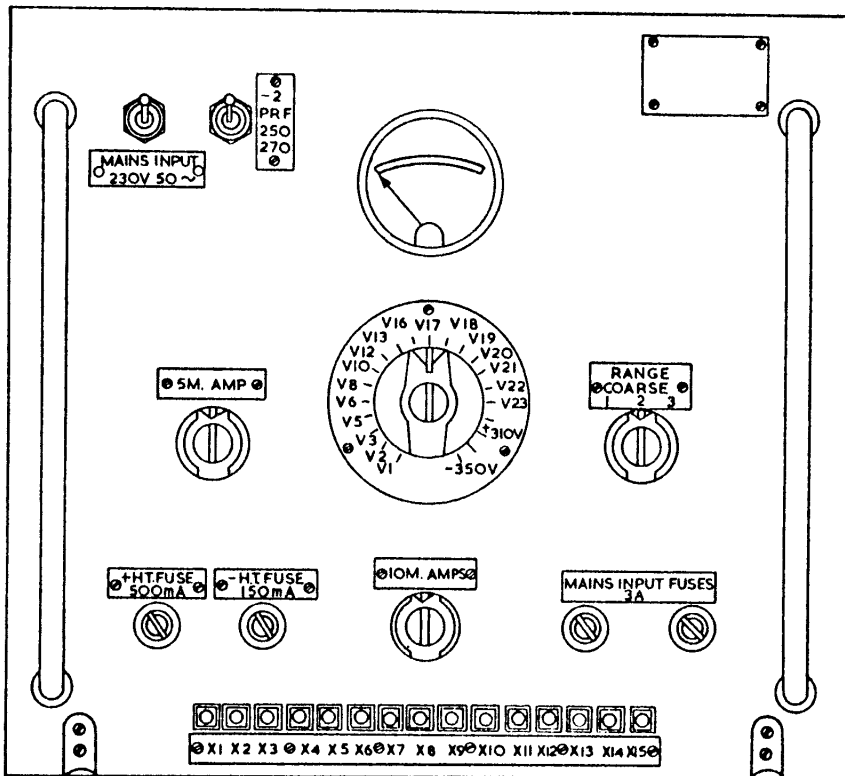
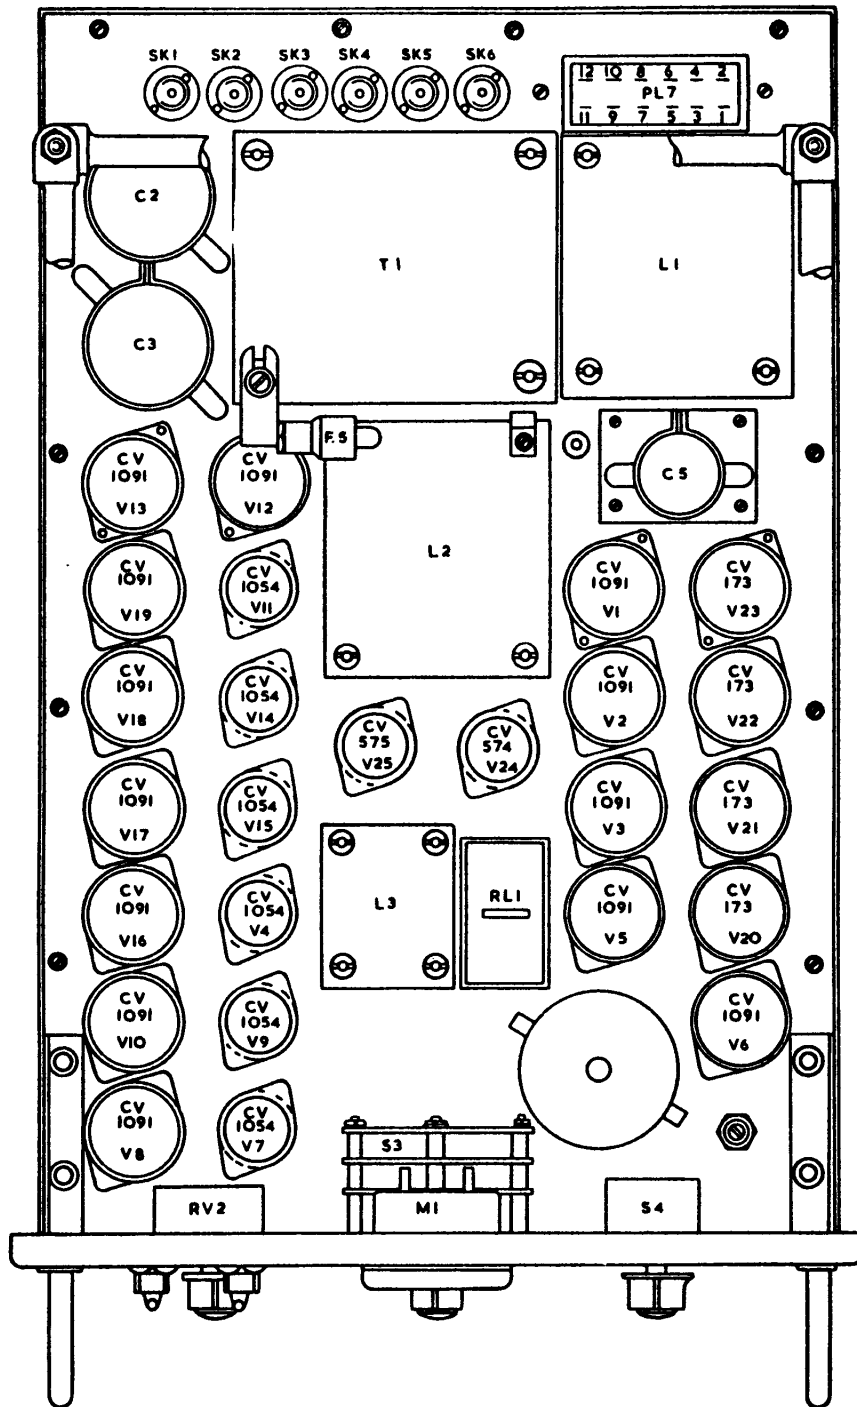

Fig. 1. Marker unit (range) Type 27A—front panel
Fig. 2. Marker unit (range) Type 27A—plan view
1. The marker unit (range) Type 27A (Ref. No. 10D/21435) is used at radar stations that are capable of extra long range timebase operation. The unit is similar to the marker unit (range) Type 27, which is described in the preceding chapter. The only difference shown by the front panel of the Type 27A is the addition of a three-position switch as shown in figure 1. Fig 2 shows a plan view of the unit and fig. 3 is the circuit diagram.